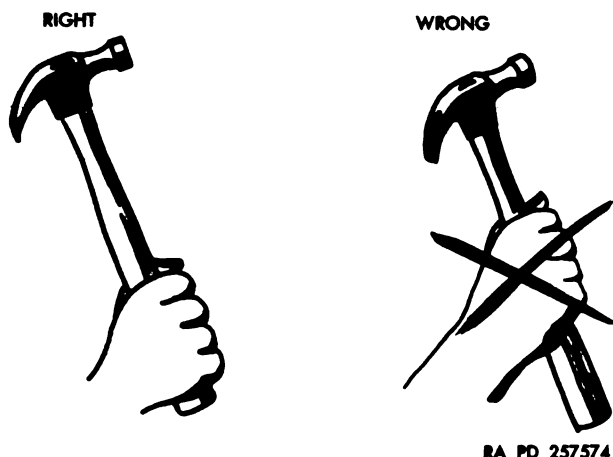

Figure 104. Holding hammer correctly.
- (a) Grip the hammer handle firmly with one hand near the end of the handle (fig. 104).